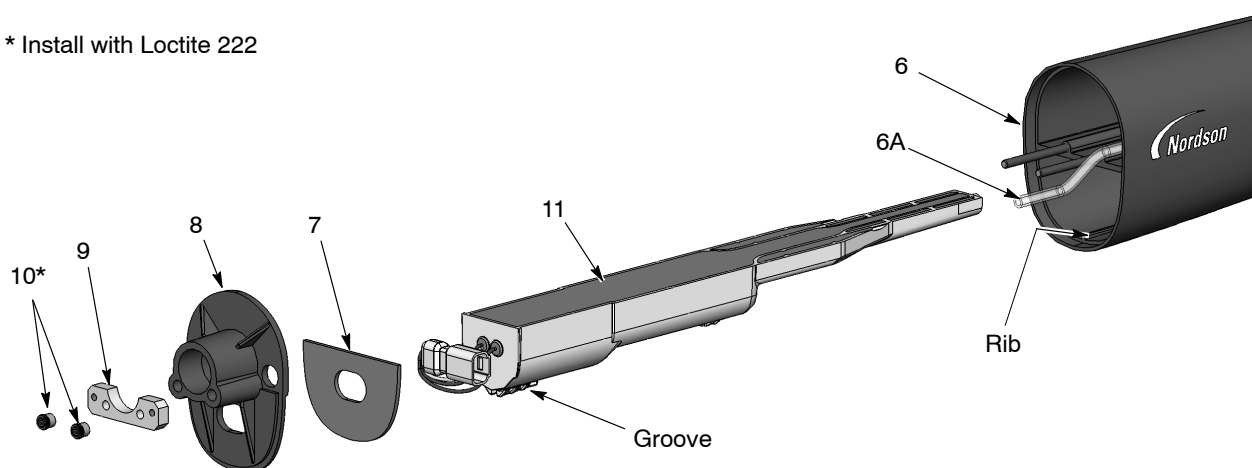

Figure 7-14 Bar-Mount Spray Gun Disassembly 2 of 3
4. See Figure 7-14. With a  $\frac{1}{8}$ -in. hex key, remove the two Allen nuts (10) and screw plate (9) from the bulkhead (8). Then remove the bulkhead from the spray gun body (6), feeding the power supply harness through the bulkhead.
5. Slide the power supply (11) out of the spray gun body.
7. The gasket (7) is attached to the bulkhead with pressure sensitive adhesive. If the gasket is damaged, replace it with a new one.
1. See Figure 7-14. Install the power supply (11) into the gun body (6), making sure the gun body rib fits into the groove on the power supply. Seat the power supply firmly into the gun body.
2. Feed the power supply harness through the bulkhead, then install the bulkhead (8) and screw plate (9) over the gun body studs. Apply Loctite 222 to the Allen nuts (10), then install the nuts on the studs and torque them to 0.45 N•m (64 inch-ounces) with a  $\frac{1}{8}$ -in. hex key.